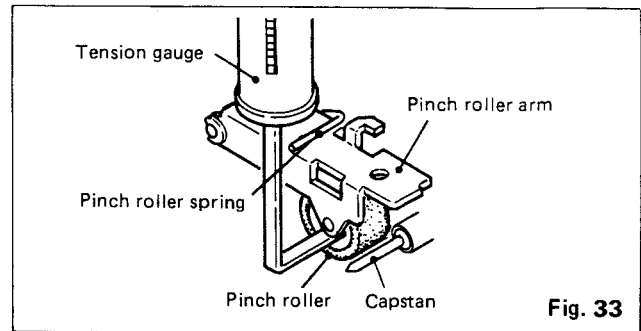

Fig. 33
1. Confirm that the pinch roller stops rotating between 450 - 550g on the tension gauge indicator when slowly pulling the gauge hooked at the pinch roller arm as shown in Fig. 33 while playing and placing the unit with the motor side down.